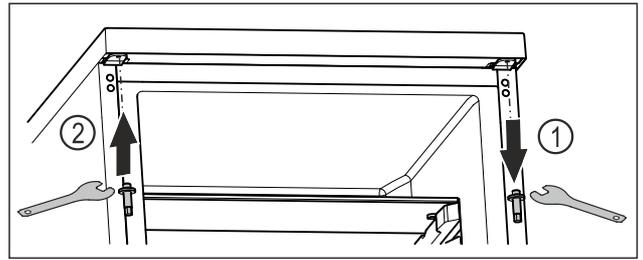

Fig. 15
- ▶ Unscrew the upper bolt using an external hexagon wrench. Fig. 15 (1)
- ▶ Tighten the bolt on the opposite side using an external hexagon wrench. Fig. 15 (2)